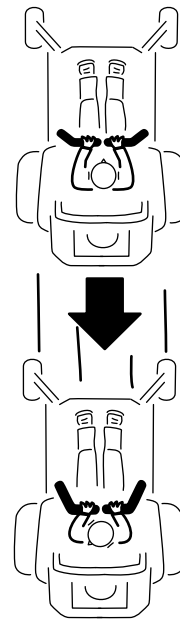

Figure 23
2. To go backward, slowly pull the motion control levers rearward (Figure 23).